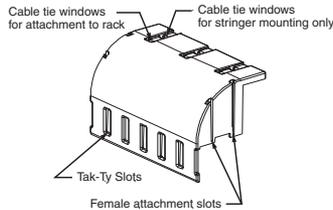

Figure 2
- 1) Mount waterfall base (Figure 2) to stringer or rung (Figure 1) with three Panduit PLT Cable Ties (supplied). Refer to Picture 1 and 2 below.